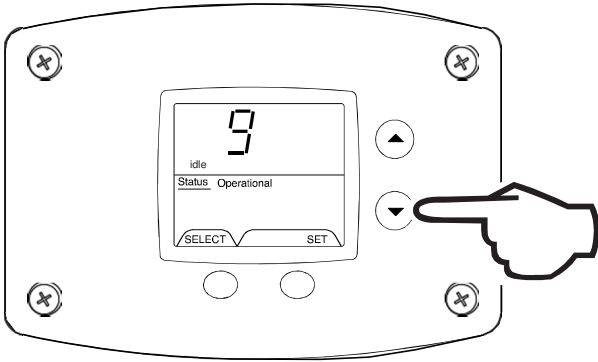

Fig. 69
4. Press the 'Temperature Down' button to change to the previous code index, code #9 (Fig. 69).